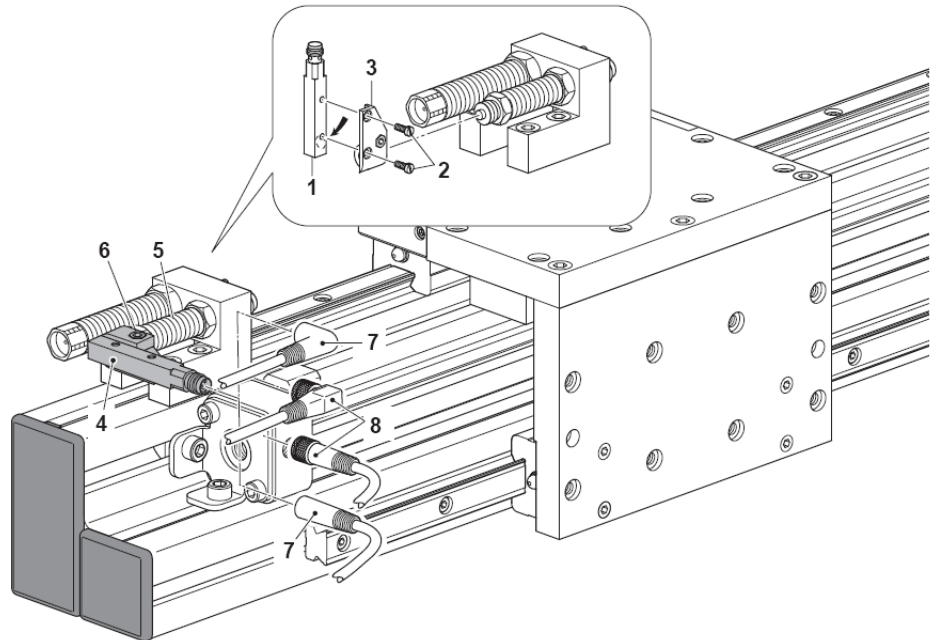

Fig. 37 Installation of initiator 8x8 mm in PMP/PMP-c
1. Screw the initiator (Fig. 37, 1) onto the initiator holder (Fig. 37, 3) with screws (Fig. 37, 2).
2. Push the initiator holder with initiator (Fig. 37, 4) onto the stop screw (Fig. 37, 5) as far as it will go and clamp it with the screw (Fig. 37, 6).
3. Mount the connector (Fig. 37, 7 +8).